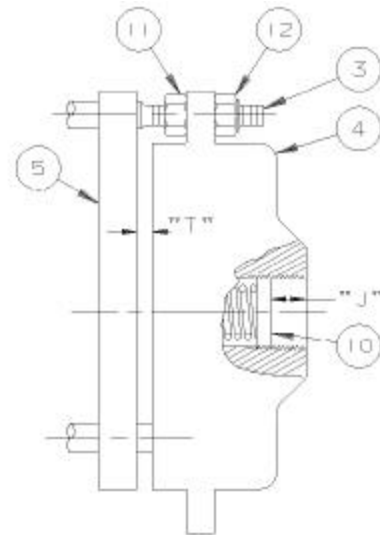

FIGURE 2.
5. Brake unit must be disassembled to mount. Remove cover (1) by removing four screws (13). **WARNING! Check dimension "J" for a .00 inch dimension, see FIGURE 2, page 4. If required, adjust spring plug (10) by turning with a 1-1/8 inch hex socket wrench to obtain a .00 inch dimension. This will reduce spring (8) force to prevent the magnet pot (4) from accidentally moving off the mounting studs (3) when removing the locknuts (12).** Remove three locknuts (12) from mounting studs (3). Remove magnet pot (4), three nuts (11), armature plate (5), brake discs (6), brake plates (7) and brake discs (22).
1. AIR GAP adjustment, dimension "T" FIGURE 2, must be maintained to allow the brake to release and prevent the loss of braking torque. Dimension "T" is measured between the surfaces of the magnet pot (4) and the armature plate (5) at three equal distance points (120 degrees apart) about the magnet pot (4). This dimension should be held at 0.032 inches and in no case allowed to exceed 0.12 inches.
2. BRAKE TORQUE adjustment, dimension "J" FIGURE 2, controls braking effort by changing the spring (8) pressure. Increasing dimension "J" increases brake torque and decreasing "J" decreases brake torque. Brake nameplate located on the brake unit cover shows the "Minimum", "Maximum" and "Set" dimensions for brake torque. The "Minimum" dimension is the smallest dimension that the brake can be set at to obtain the least braking torque. The "Maximum" dimension is the largest dimension that the brake can be set at to obtain the highest brake torque. Exceeding this